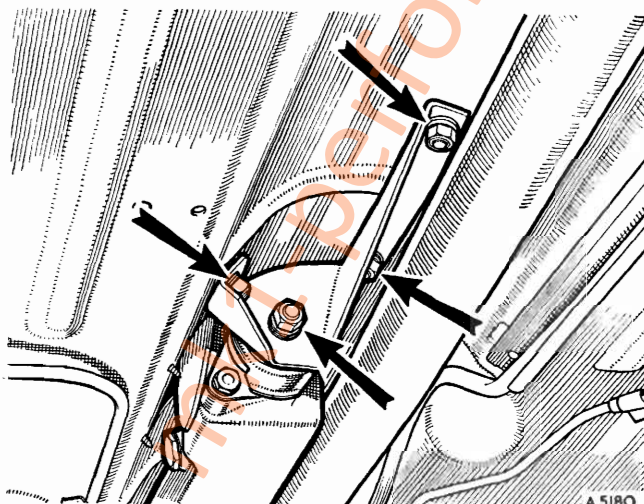

Fig. A.12
- (1) Carry out the instructions (1) to (10) and (15) in Section A.12.
- (2) Remove the fresh-air motor (when fitted).
- (3) Disconnect the oil gauge pipe.
- (4) Take off the distributor cap.
- (5) Remove the carburetters and air cleaners (Sections A.1 and A.2).
- (6) Remove the exhaust pipe assembly (Section A.3).
- (7) Remove the three bolts securing the rear extension mounting to the floor (Fig. A.12).
- (8) Unscrew the gear lever knob and take out the screws with the rubber cover and plate.
- (9) Remove the gear-change extension. Disconnect the hydraulic and vacuum pipe and remove the brake servo (Cooper 'S').